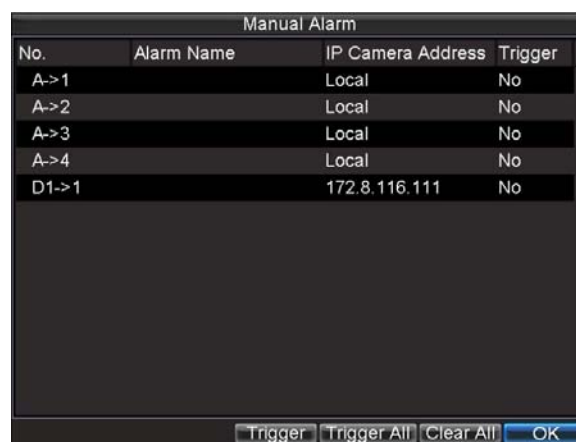

Figure 11. Manual Alarm Menu
1. Enter the Manual Alarm menu (Figure 11) by clicking Menu > Manual Alarm.